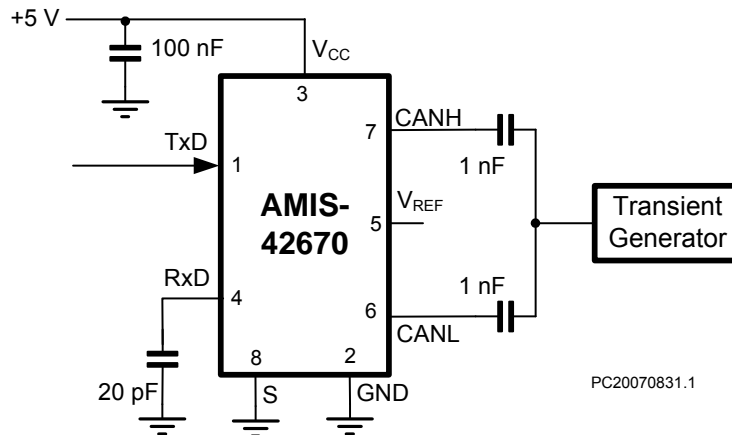

Figure 4: Test Circuit for Transients
The pins CANH and CANL are protected from automotive electrical transients (according to "ISO 7637"; see Figure 4). Pin TxD is pulled high internally should the input become disconnected.
1. Applied transient waveforms in accordance with ISO 7637 part 3, test pulses 1, 2, 3a, and 3b (see Figure 4).